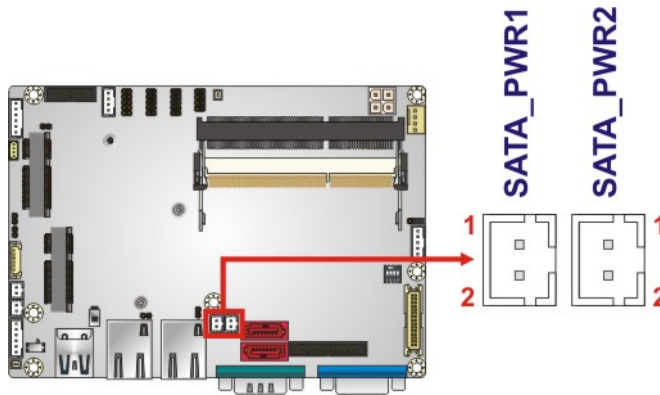

Figure 3-3: 5 V SATA Power Connector Locations
- CN Location:** See **Figure 3-3**